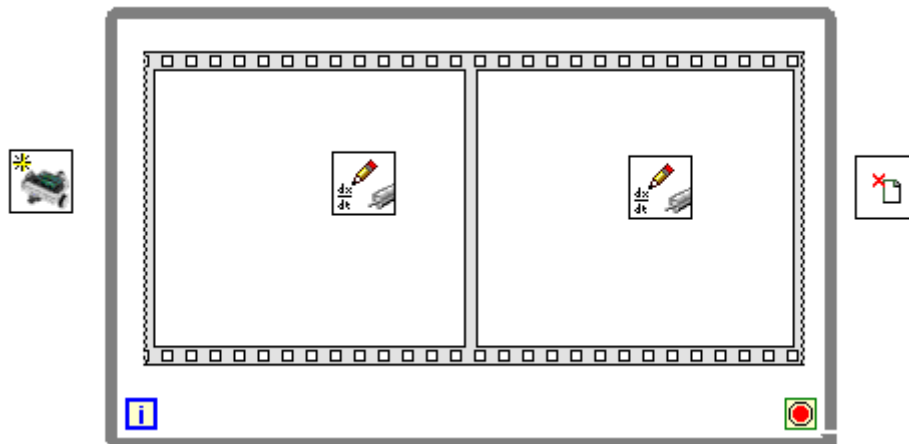

Figure 2.6
**Step 5:** The next part of this lab requires setting up an infinite loop. We need the robot to navigate the 2x2 meter square infinitely, so the loop must be placed around the flat sequence structure. To accomplish this we will use a while loop. Follow the same instructions used to acquire the flat sequence structure, but this time choose a while loop. *Right click* → *Programming* → *Structures* → *While Loop*. Make sure you place the while loop in such a way that it fully encompasses the Flat Sequence Structure, when this step is complete your code should look like figure 2.6.